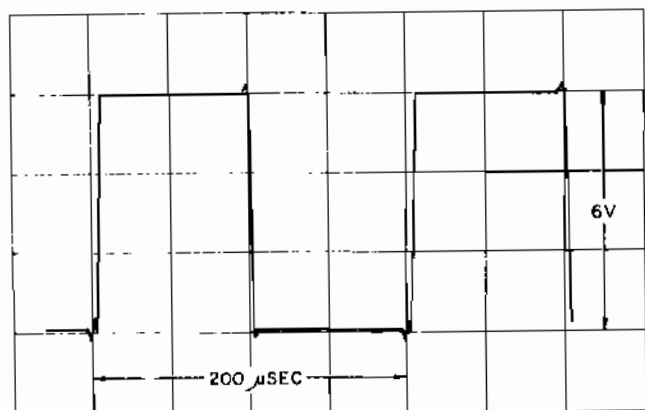

FIGURE 6.17 - WAVEFORM AT
q. Compare the waveform and amplitude at the junction of R32 and R35 (collector of Q11) with that in figure 6.17.